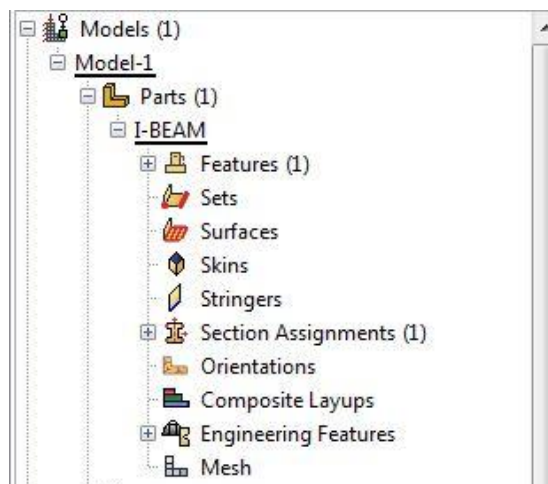

**Figure 32.** Suppress Distributed Load
- Using the cursor, right click **DISTRIBUTED** (Figure 32). Scroll over the **Suppress** option and right click.